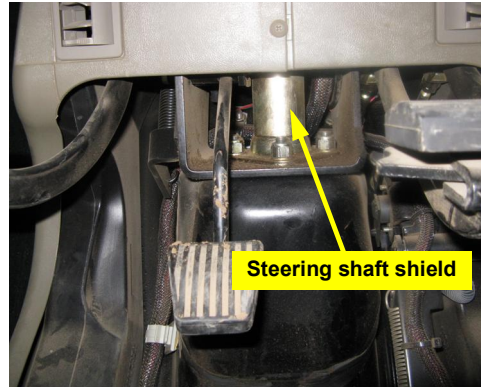

Figure 1a: Shielded steering shaft
- a. Locate the steering shaft under the steering console near the cab floor. The shaft is surrounded with a metal shield (Figure 1a).